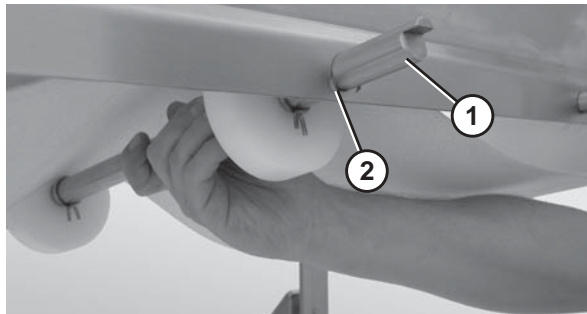

Figure 20
1. Slide the return shaft (**Figure 20, item 1**) up and through the large slot (**Figure 20, item 2**) in the frame.